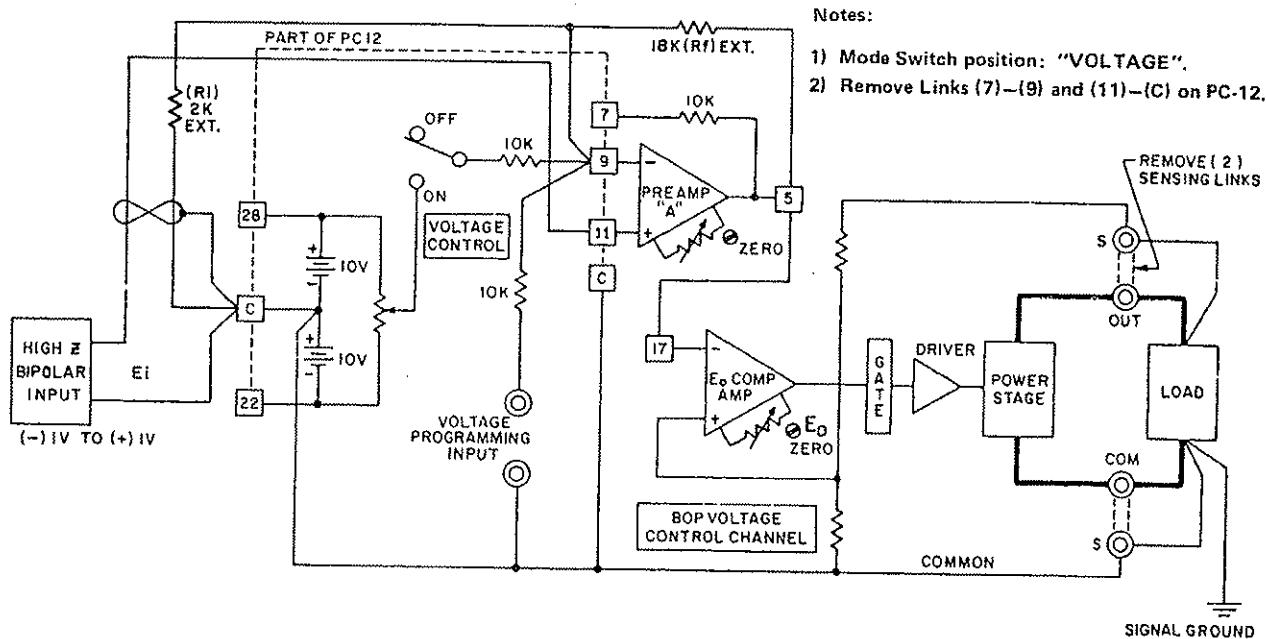

FIG. 3-7 BOP D-C OUTPUT VOLTAGE CONTROL WITH A HIGH IMPEDANCE, (\pm) 1V SIGNAL SOURCE.
- 3-20 If, for example, the BOP d-c output is to be controlled by means of a bipolar, 1 volt, high impedance source, it can be connected to the BOP as shown in FIG. 3-7.
- 3-21 As seen in FIG. 3-7, the original input feedback components of PREAMP "A" have been bypassed and are replaced by external resistors (small, metal film or wire-wound type resistors may be used and connected directly to the REAR PROGRAMMING CONNECTOR terminals as shown). PREAMP "A" is used in the non-inverting configuration. Its output voltage (the necessary BOP control voltage) is given by: